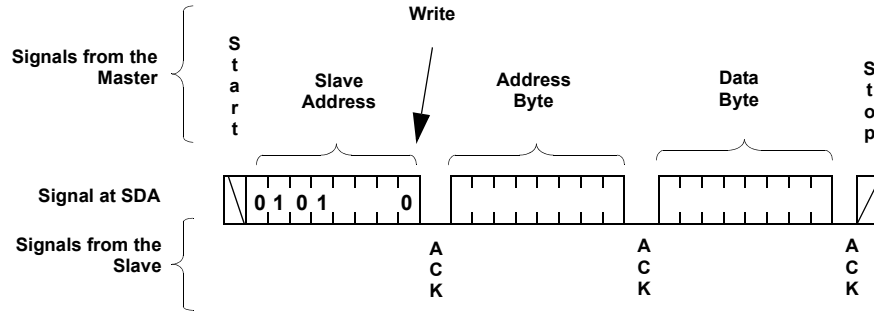
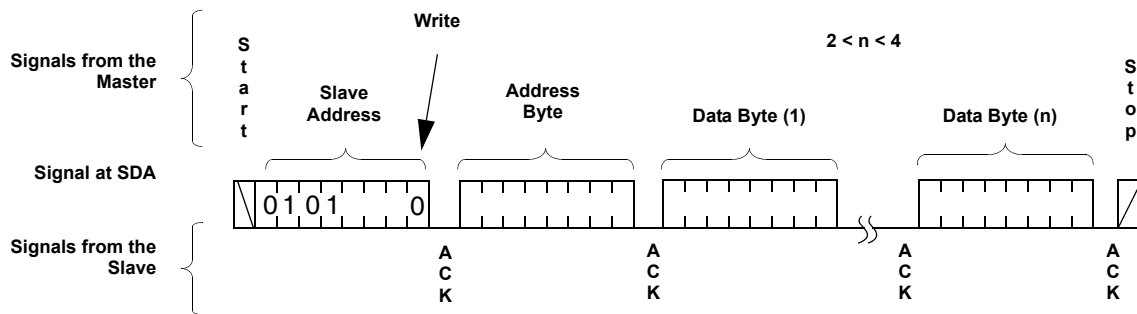

FIGURE 7. BYTE WRITE SEQUENCE
FIGURE 9. PAGE WRITE OPERATION
2. Access the desired DR or WCR using a new write or read command (see Figure 7 for write and Figure 9 for read.)
For any Byte Write operation, the X9455 requires the Slave Address byte, an Address Byte, and a Data Byte (See Figure 7). After each of them, the X9455 responds with an ACK. The master then terminates the transfer by generating a STOP condition. At this time, if the write operation is to a volatile register (WCR, or SR), the X9455 is ready for the next read or write operation. If the write operation is to a nonvolatile register (DR), and the \overline{WP} pin is high, the X9455 begins the internal write cycle to the nonvolatile memory. During the internal nonvolatile write cycle, the X9455 does not respond to any requests from the master. The SDA output is at high impedance.
As stated previously, the memory is organized as a single Status Register (SR), and four pages of four registers each. Each page contains one Data Register for each wiper. Normally a page write operation will be used to efficiently update all four Data Registers and WCR in a single Write command. Note the special sequence for writing to a page: First wiper 0A, then 1B, then 1A, then 0B as shown in Figure 9.
up to 4 bytes (See Figure 9). After the receipt of each byte, the X9455 responds with an ACK, and the internal WCR address is incremented by one. The page address remains constant. When the address reaches the end of the page, it “rolls over” and goes back to the first byte of the same page.